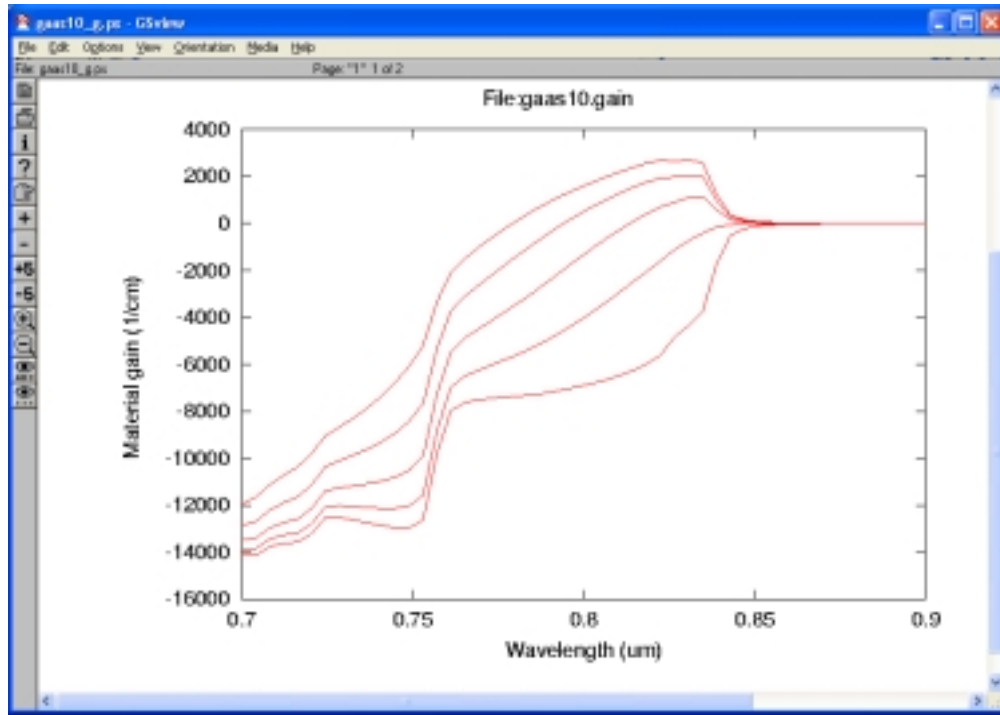
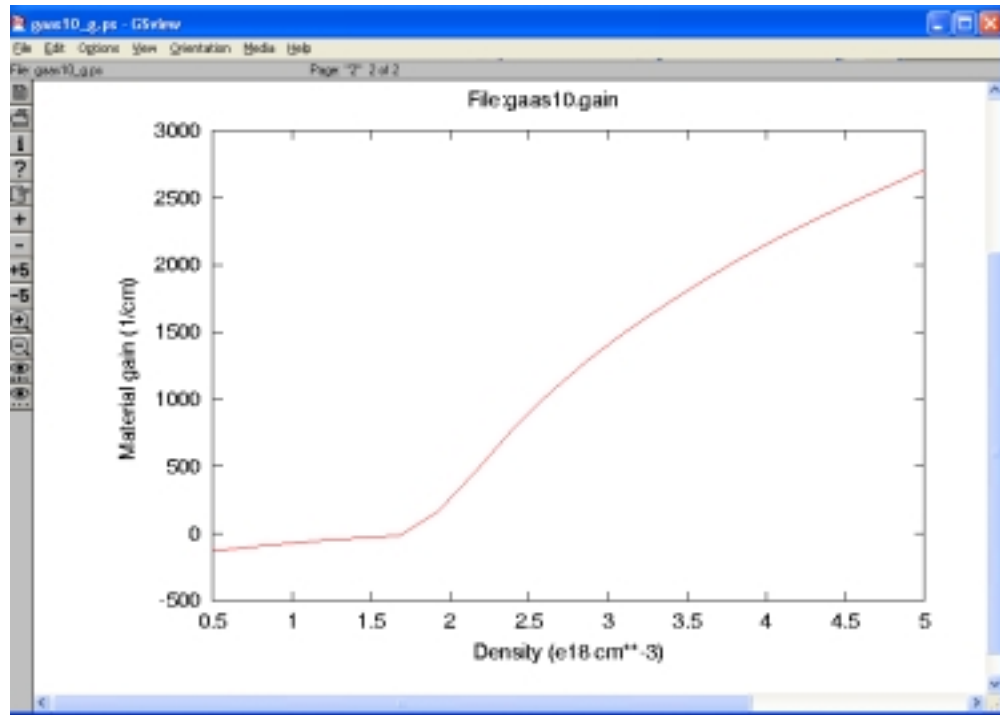

Fig. 5a Gain spectra plotted at different carrier densities.
Fig. 5b Peak gain vs. carrier density.
- (4) It is always helpful to check out the optical gain produced by the laser's active region before starting the full simulation. This can be done using the `gaas10.gain` file which already exists in our case. You can process it by right-clicking on "`gaas10.gain`" and selecting "Process Gain File". You will first see gain spectra for different carrier densities (Fig. 5a). It is always important to have positive gain at the intended laser emission wavelength (here $0.83\mu\text{m}$). Clicking on "+" in the GSview side panel shows the peak gain vs. carrier density (Fig. 5b). This figure reveals a transparency carrier density of about $1.7 \times 10^{18} \text{cm}^{-3}$ for our laser. Close the GSview window, both figures are saved as `gaas10_g.ps`